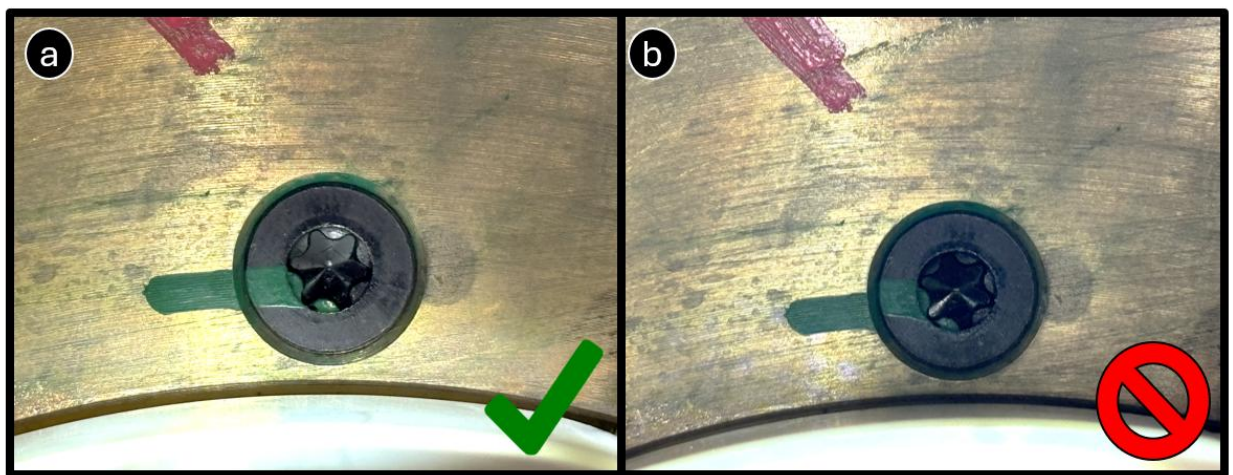

Figure 10 - Examples of No Rotation (a) and Rotation (b)
15. Visually inspect the hardware closely to determine if the alignment marks on the screw heads have rotated relative to the bronze gear as shown in Figure 10.